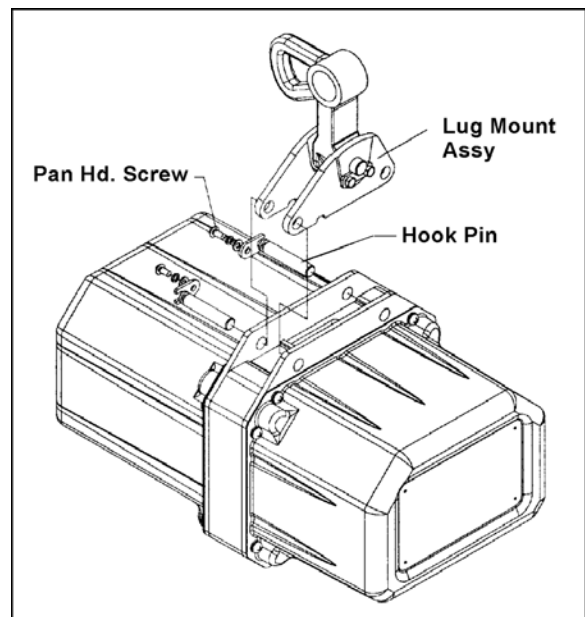

Figure 9
4. Remove the top hook assembly from the hoist, and replace it with the lug mount accessory as shown in Figure 9. Re-install the hook pins, hook pin plates, screws and washers. Firmly tighten the screws.